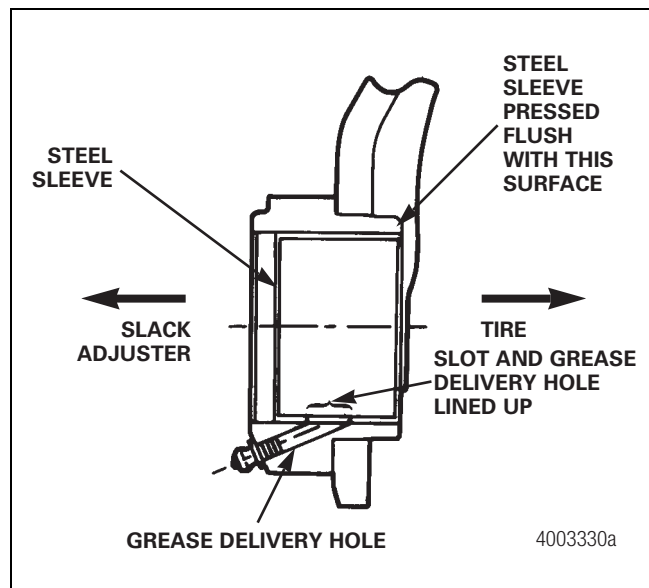

Figure 12.29
- A. For plastic bushings, drive a steel sleeve into the retainer bore until it is flush with the outboard edge, tire side, of the retainer. Verify that the slot in the steel sleeve lines up with the grease fitting delivery hole. Then install the plastic bushing. Figure 12.29.